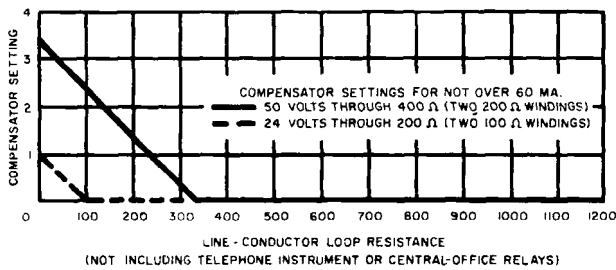

Figure 23. Line-conductor loop resistance chart.
- d. Adjustments through a testboard equipped for line resistance measurement. Upon completing the installation, dial the testboard. Request line resistance measurements. Short-circuit the line a few moments while the testboard attendant measures loop resistance. Set the loop compensator as shown on the chart (figure 23).